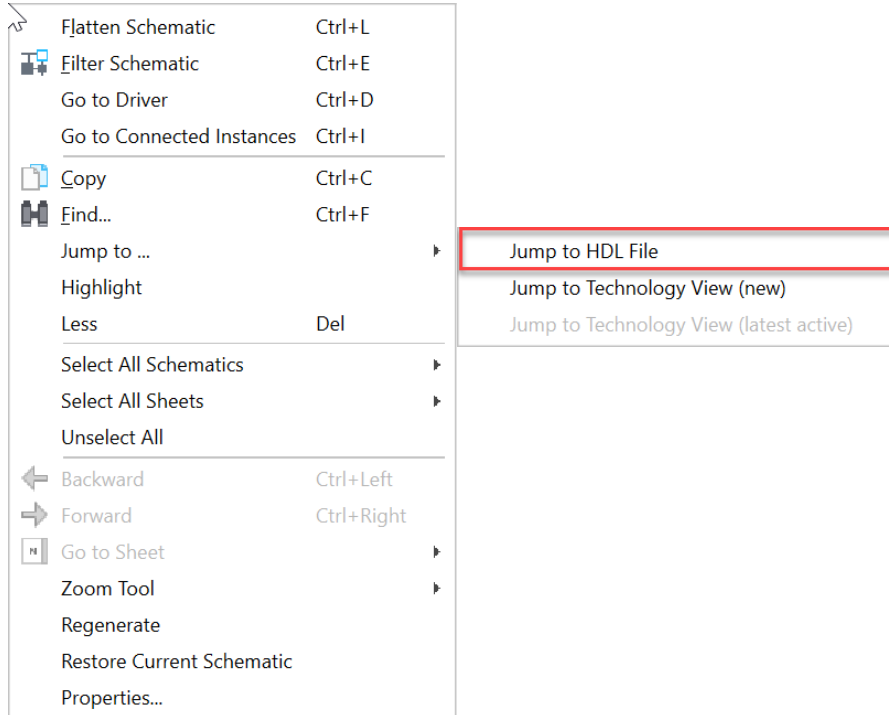

Figure 3.18. Jump to HDL File Option
- Choosing Jump to HDL File option, shown in Figure 3.18, allows you to view the selected net in the Hardware Description Language (HDL) file, specifically in the RTL representation.